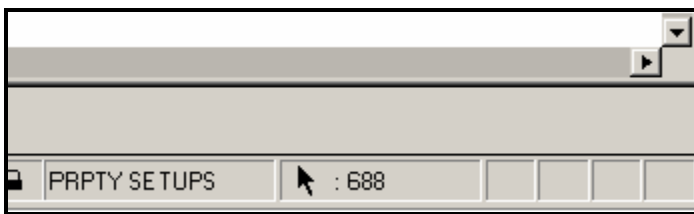

Figure 2-33: Count of Elements
- ♪ Notice that when you add elements to a *Selection Set*, MicroStation displays the number of elements you have selected. This number is displayed in the right corner of your *Status Bar* as shown in Figure 2-33.